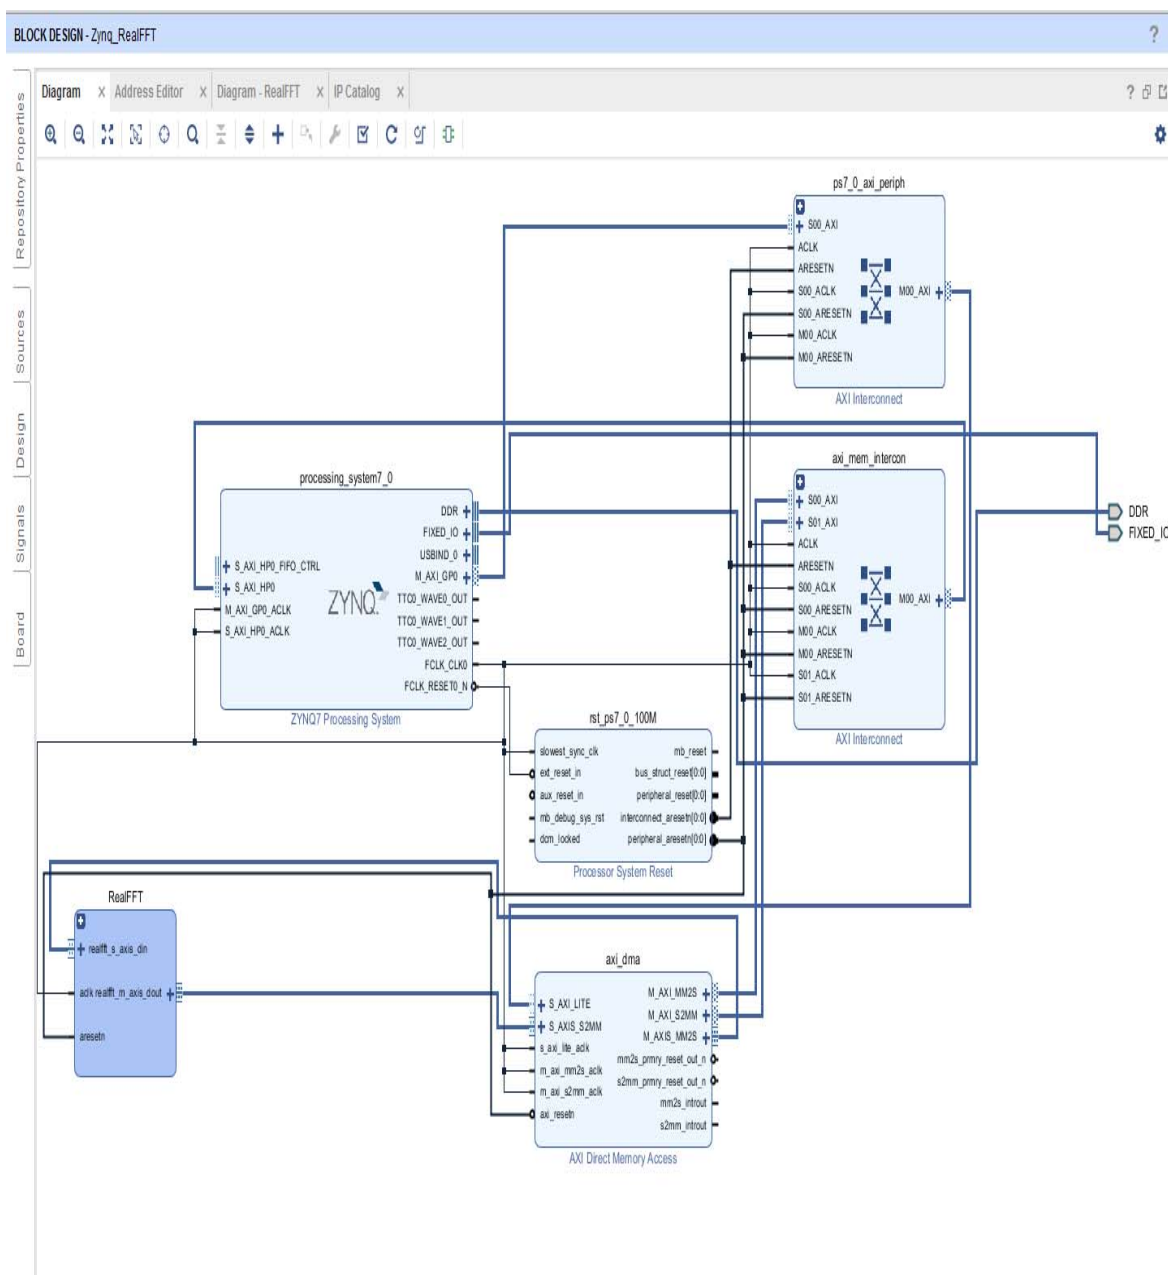

Figure 10-41: Zynq Diagram with Internal Connections
25. To complete the design, run Validate Design. When validation completes successfully, the block diagram should look like Figure 10-41.